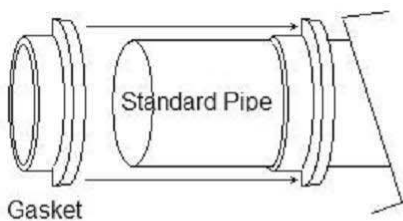

Fig. 1
2. Slide the rubber gasket seal onto the standard pipe so that it looks as pictured in Fig. 1.